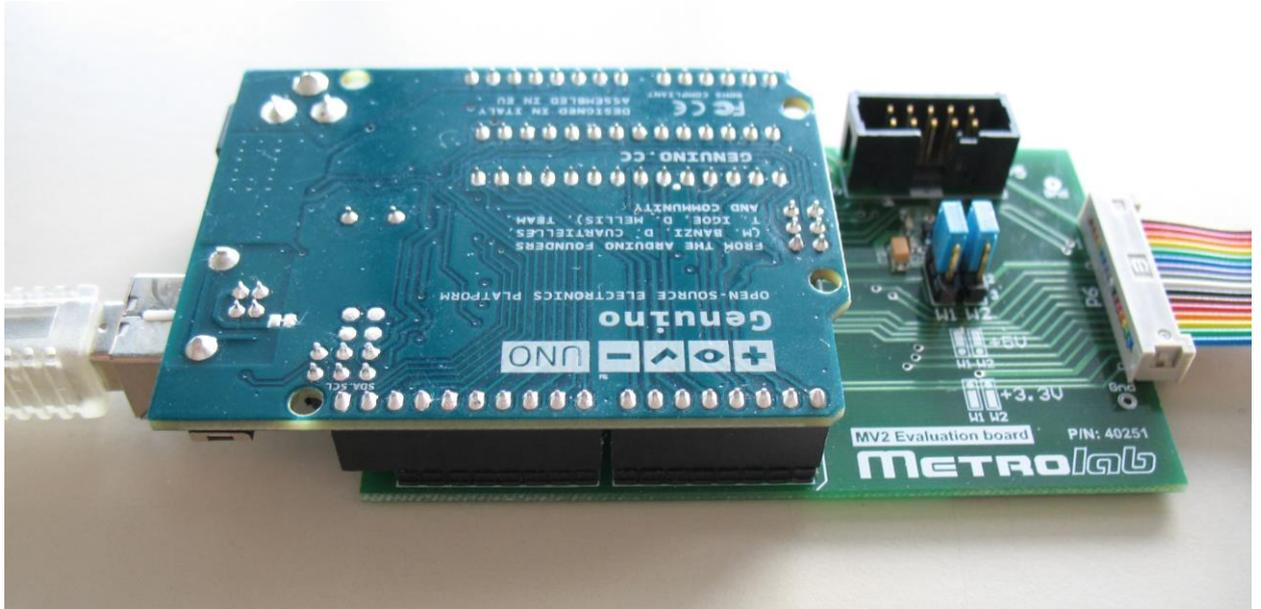

Figure 20. Arduino/Genuino UNO connected to MagVector MV2 test board.
As shown in Figure 20, the Arduino UNO's connectors mate exactly with those on the test board: the Arduino UNO Digital headers (IOL and IOH) connect to P1 and P2, respectively, on the test board; the Arduino UNO Analog (AD) and Power (POWER) headers connect to P3 and P4, respectively, on the test board. Note that the last two pins of the Digital header (IOH-9 – SDA and IOH-10 – SCL are not connected to the test board.